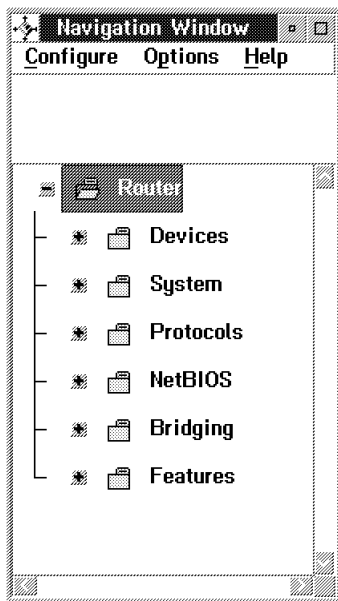

Figure 11-1. Navigation Window
- The smaller **Navigation** window (see Figure 11-1 on page 11-2). Use this window to move through the MAE configuration program to find resources that you want to view or configure. When the MAE Configurator starts, this window is hidden by the Configuration window. There are two ways to bring the **Navigator Window** to the front when you need it:
The Navigation window (see Figure 11-1) contains the following: